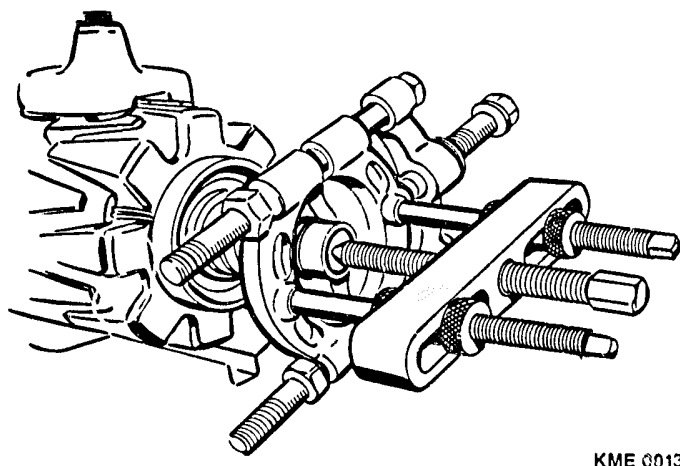

Figure 20 Inner Bearing Race Removal
1. With a universal bearing puller, remove the inner race of the endshield bearing. (Figure 20)